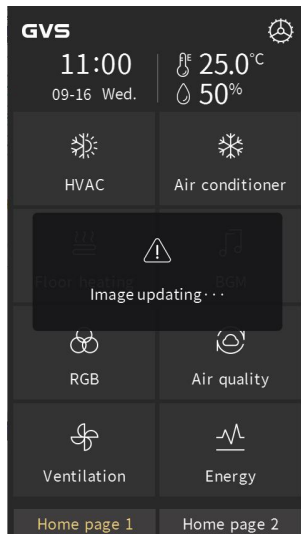
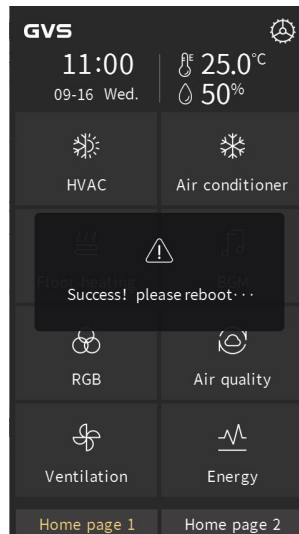
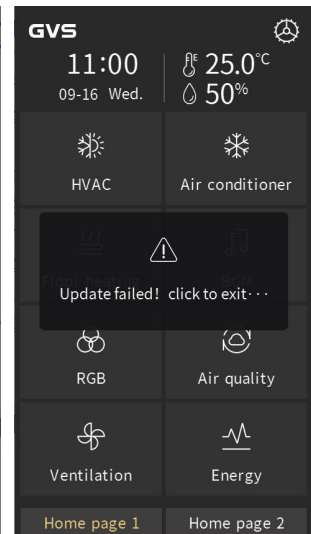
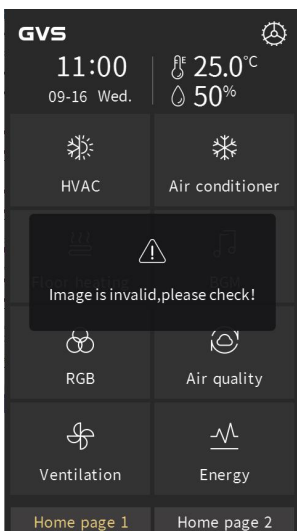

Fig.5.2
Fig.5.3
Fig.5.4
Fig.5.5
② Update pictures: when there is a folder named “Pageicon” in the Micro SD card, and there is a picture in accordance with valid name and format, then it will update and store (even if the picture is the same as the last saved).
3. Click “Confirm” to update picture; after upgrade, there will pop up a window of the result, if upgrade is successful, reboot the device manually to apply the new page icons to the system; if upgrade is failed, click any area outside the window to return to the page, as shown in Fig.5.2, Fig.5.3, Fig.5.4 and Fig.5.5.